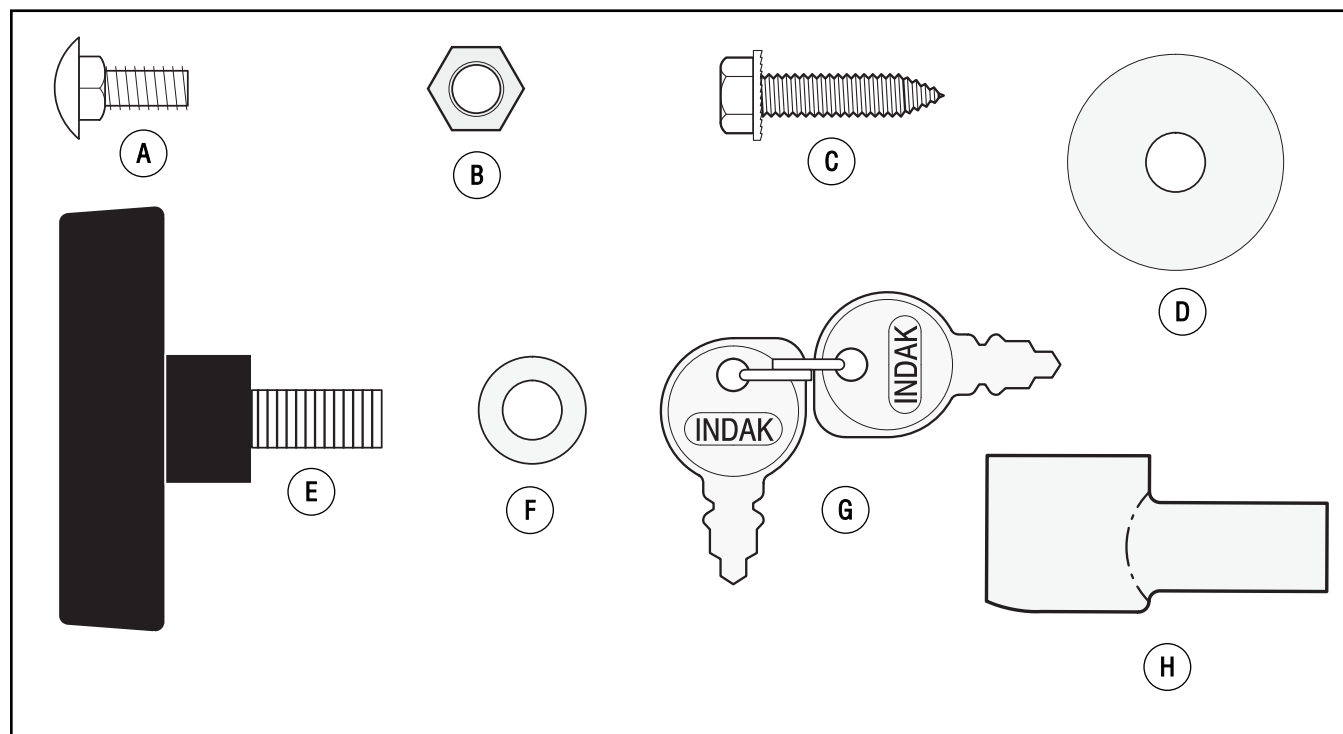

Figure 3: Parts bag components
A - Wing bolt (Also see 'E' in Figure 3)
B - Washer (Also see 'F' in Figure 3)
A - Screw (Also see 'C' in Figure 3)
B - Washer (Also see 'D' in Figure 3)
- A - Carriage bolt (Also see 'A' in Figure 3)
- B - Hex nut (Also see 'B' in Figure 3)
H - Terminal cover (Also see 'H' in Figure 3)